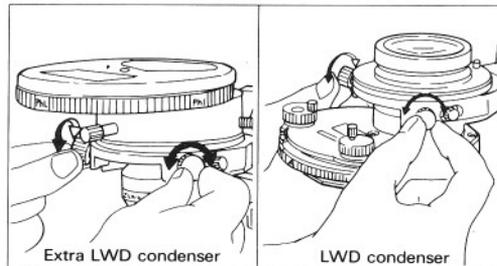

Fig. 24
- 6) If the viewfield diaphragm image is found decentered in relation to the eyepiece viewfield, adjust it by means of the condenser centering screws. (Fig. 24 and 25 - 1 )
- 5) If the viewfield diaphragm image is found decentered in relation to the eyepiece viewfield, adjust it by means of the condenser centering screws. (Fig. 24 and 25 - 1 )